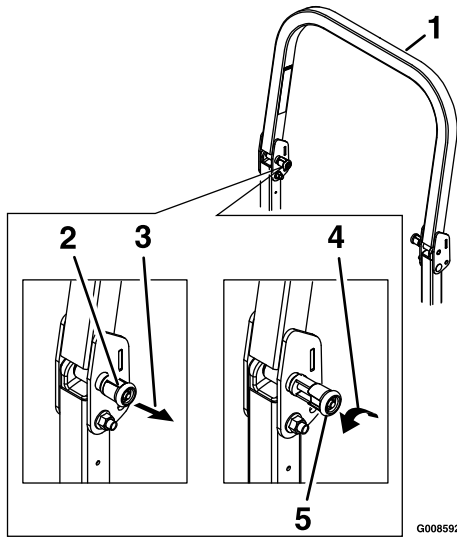

Figure 1
1. Pull the knob and rotate 90° to the unlatched position (see Figure 1).
3. To lock the roll bar in the raised, operate position, rotate the knobs 90° so that the tabs interlock partially. Apply forward pressure to the roll bar hoop and observe that the knobs return to the completely latched position as shown in Figure 1.